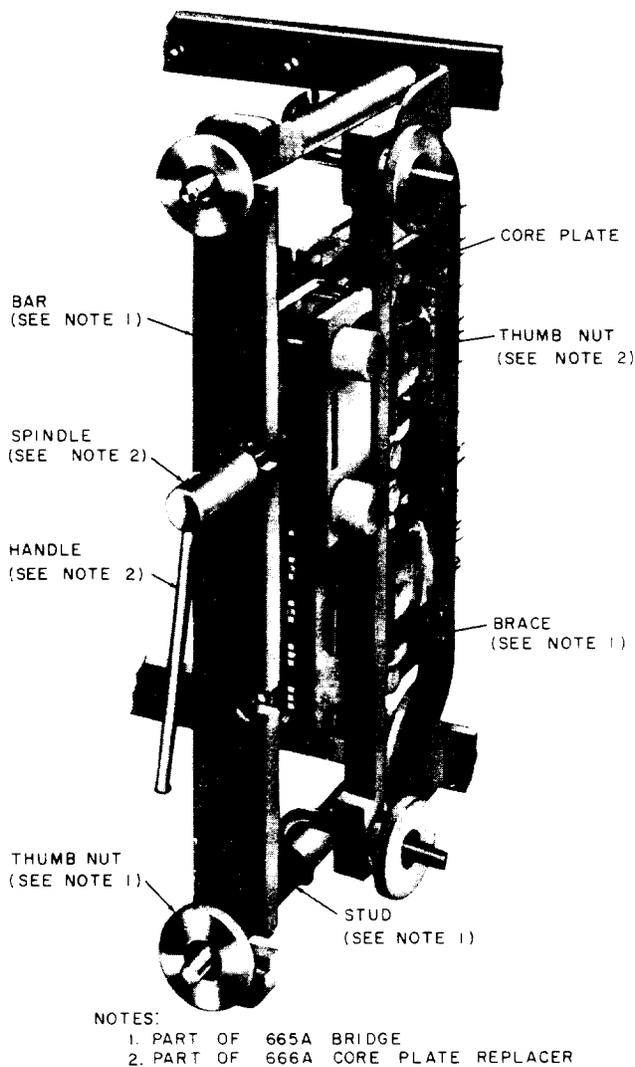

Fig. 13—287- and 288-Type Relays Mounting Core Plate
(1) Hold the brace of the 665A bridge with the end marked TOP uppermost and the designation TOP facing the left. If there is sufficient clearance, insert the brace at the right of the relay being worked on and turn it 90 degrees so the designation TOP faces the front. If there is insufficient clearance to insert the brace, increase the clearance as covered in (2).
(2) Make the adjacent relay to the right busy, if this is practicable. Loosen the mounting screws of the relay. Also loosen the studs of the 665A bridge. Spread the relays slightly and tighten the relay mounting screws and the studs of the bridge. Insert the brace as described in (1).
(3) Insert the hook bolts through the holes in the brace and engage the hooks with the studs, as shown in Fig. 13. Position the brace so it is in line with the relay card. The brace limits the lateral strain on the relay during mounting of the core plate. Place the thumb nuts on the hook bolts, hold the brace against the core legs, and then turn the thumb nuts just enough to hold the brace in this position. Do not tighten the thumb nuts further as this would spring the core legs. Place the bar of the bridge on the studs with the end of the bar marked TOP uppermost and the notches in the bar at the right.
(4) Slightly loosen the thumb nuts of the core plate replacer so the core plate which was left in the replacer (3.22) may shift, as required, for proper assembly on the core legs. Hold the replacer with the thumb nuts at the right. Position the replacer on the relay so the slots in the core plate are in line with their associated legs of the core, the armature extends through the center hole in the core plate, and the
spindle of the replacer is in the notch of the bridge bar as shown in Fig. 13. While holding the bar of the bridge against the shoulders of the studs, shift the bar so the spindle of the core plate replacer seats in the notch in the bar and is perpendicular to the front of the bar. Securely tighten the thumb nuts against the bar. Turn the spindle of the replacer counterclockwise until the core plate butts on the shoulders of the top and bottom core legs.